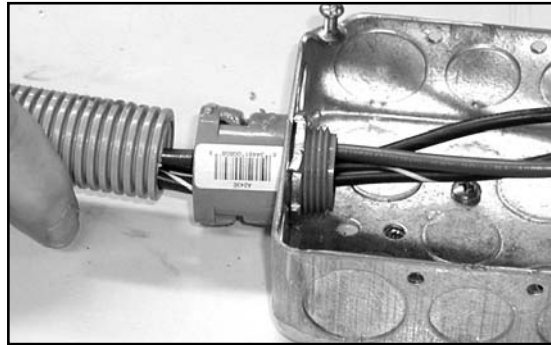

Figure 4
4. Take opposite side of Flexible Conduit with exposed High Voltage and Ground Wire; feed through Strain Relief of 4" x 4" Junction Box. See **Figure 4**.